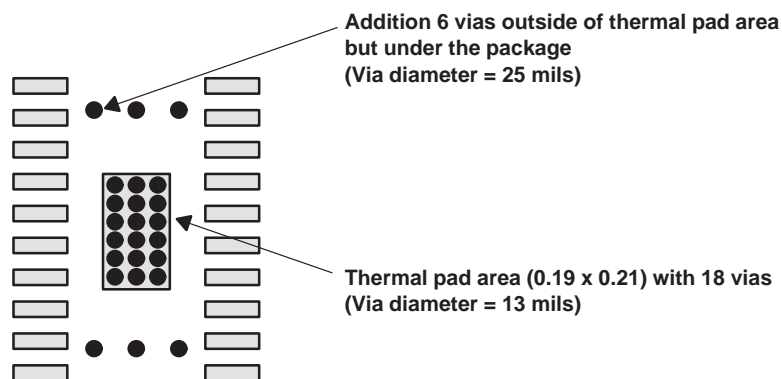

Figure 46. PowerPAD PCB Etch and Via Pattern
1. Prepare the PCB with a top side etch pattern as shown in Figure 46. There should be etch for the leads as well as etch for the thermal pad.